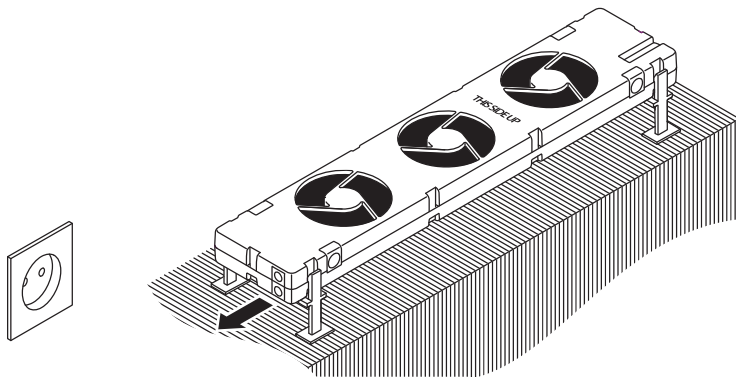

Fig. 9 - Position the **SpeedComfort** (B1) on the convector.
2. Make sure that the **SpeedComfort** (B1) faces upwards and that the **female connectors** (b1, b2) point towards the wall socket (see fig. 9).
3. Place the **SpeedComfort** (B1) on top of the convector and allow space between the convector sides and the **SpeedComfort** (B1) to reduce noise (see fig. 9). The SpeedComfort can also be placed on the ground below the convector if space allows.